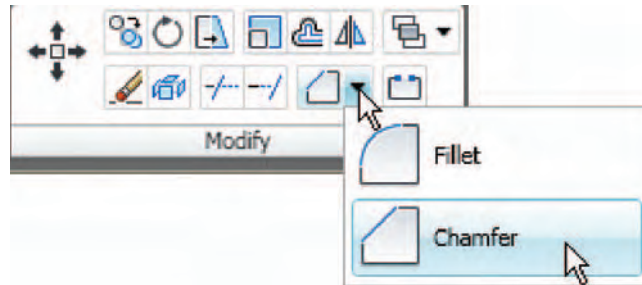

Fig. 5.43 Select Chamfer from the Modify panel
2. Call **Chamfer** – *click* the arrow to the right of the tool icon in the **Home/Modify** panel and select **Chamfer** from the menu which appears (Fig. 5.43), *click* on its tool icon in the **Modify** toolbar, *pick* **Chamfer** from the **Modify** drop-down menu, or *enter* **cha** or **chamfer** at the command line which then shows: